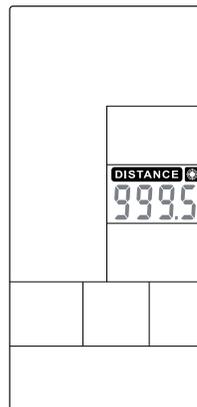

Figure 41
2. The **DISTANCE** value will flash. Use the "UP" and "DOWN" buttons to adjust the value (see Figure 41). Press "ENTER" to confirm. The buzzer will sound for 1 second, and the **DISTANCE** icon will remain lit.